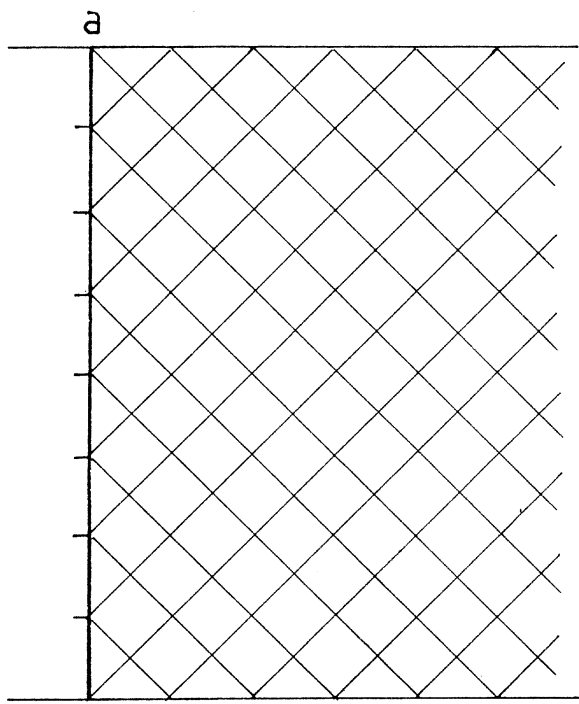

fig. 2
2. Lay the paper on a flat surface and (fig. 2) divide one side into a number of equal spaces, in this instance (line 'a'-'a') the number of bights(8) you have chosen. From each dividing mark lightly draw straight pencilled lines going off at 45 degrees in each direction. Use a soft-ish pencil so that erasing mistakes is easy. Any ruler or other straight edge will do; and, unless you have the use of parallel rules or drawing board instruments, a sheet of graph paper visible beneath your actual drawing paper will help you produce a quick and accurate pattern.